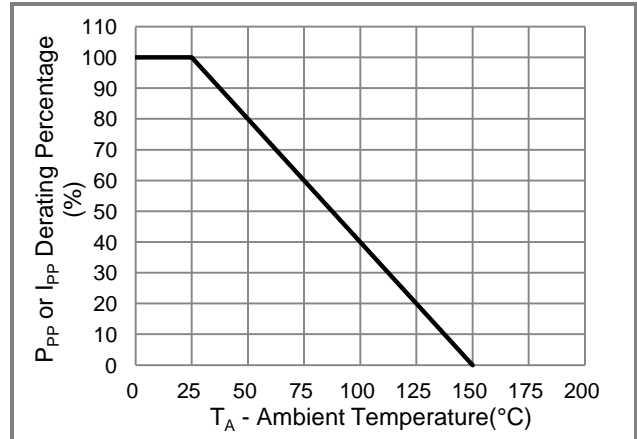
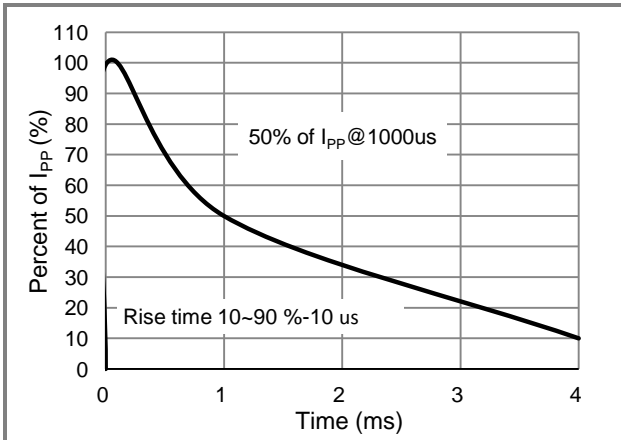

Fig.2 Derating Curve
Fig.3 10/1000us Pulse Waveform
1. Non-repetitive current pulse, per Fig.3 and derated above  $T_A=25^{\circ}\text{C}$  per Fig.2